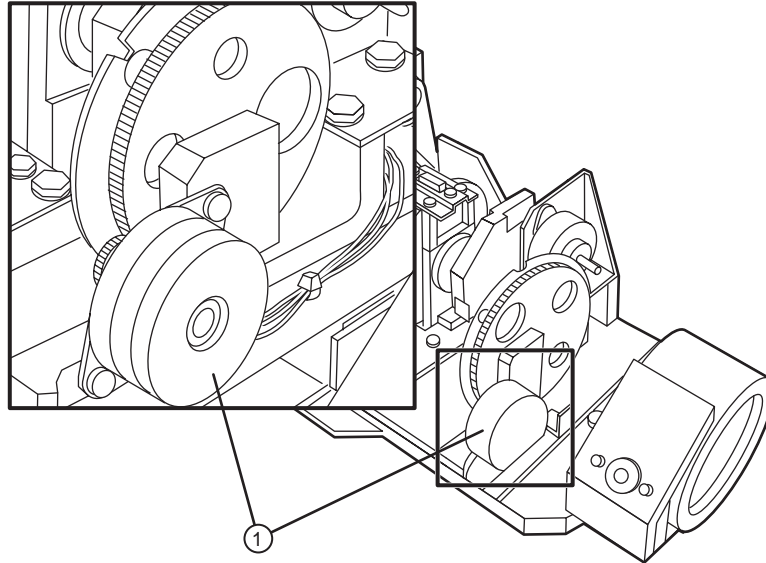

Figure 4-37 Aperture wheel motor location.
4. Remove the hex screws securing the aperture wheel motor to the SGM casting. Refer to Figure 4-37.